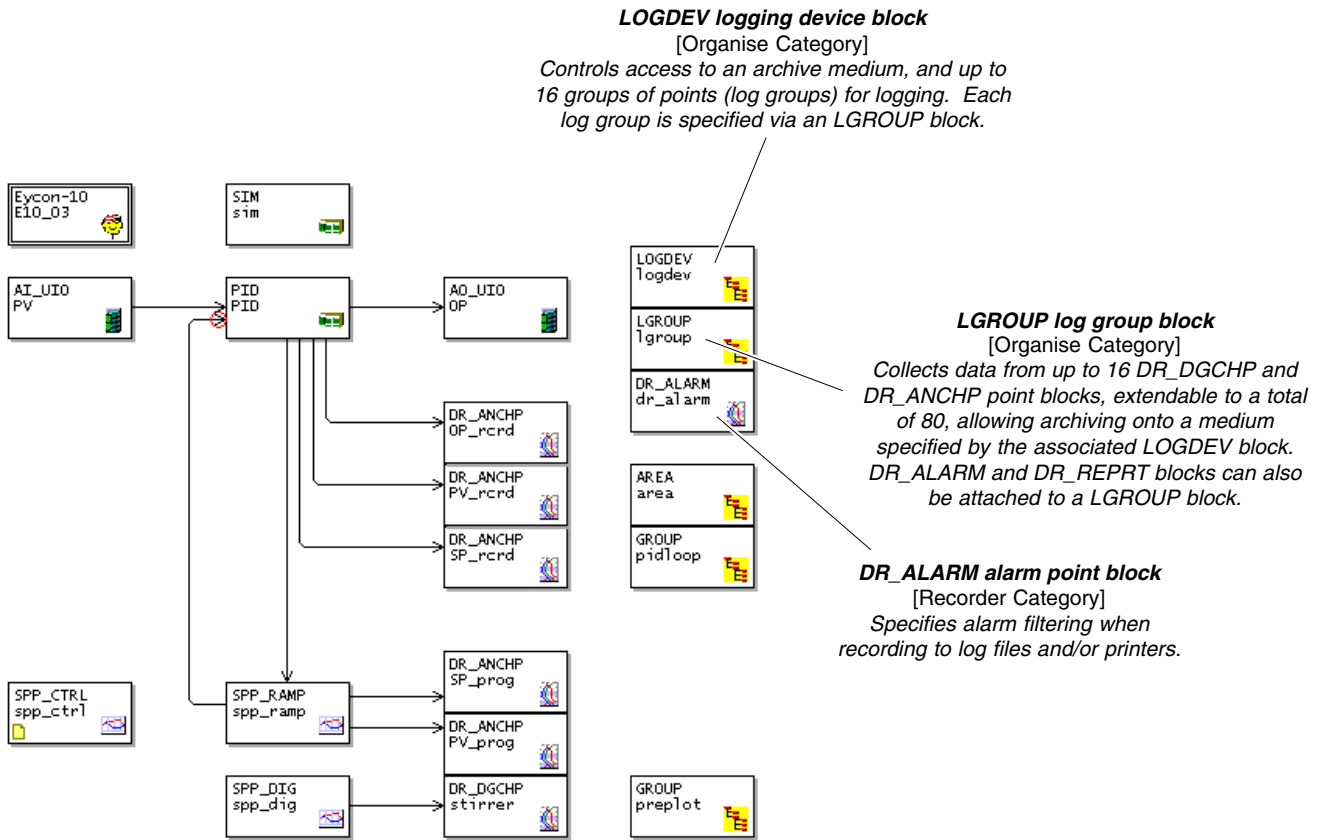

Figure 4-2 Setpoint programming strategy with added data logging
Figure 4-2 shows the setpoint programming strategy created in Chapter 3, but with three extra function blocks added to allow data logging to be performed.
- 1 In the LINTools database configurator, locate the required blocks as shown in Figure 4-2. The quickest way to do this is to open up the existing setpoint programming strategy as your starting-point, by double-clicking its icon in Explorer view, then simply add the three extra 'logging' blocks (LOGDEV, LGROUP, and DR\_ALARM).
*Note* \*(Block type) blockname.field.subfield format, referring to Figure 4-2
Table 4-2 lists the fields that should, as a minimum, be edited from their default values. For completeness, all such fields are shown in the table, including those edited in the original setpoint program strategy. Note that you must also edit the **Name** fields in all blocks, according to Figure 4-2 as you wish